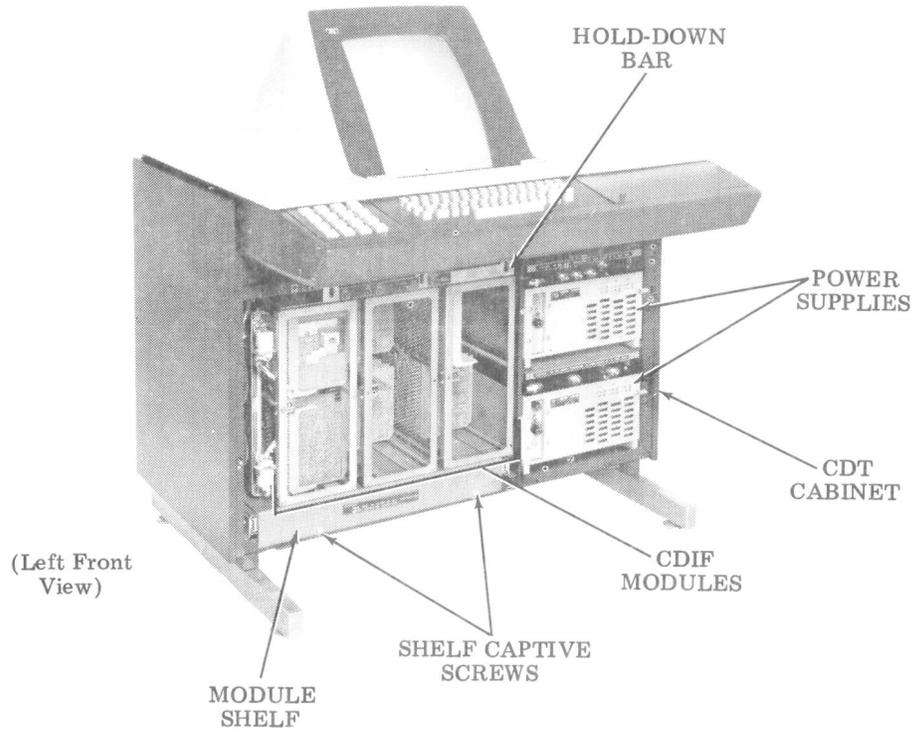

Figure 4 - CDT Set
4.07 Tighten the two captive screws on the front of the module shelf securing it to the cabinet frame (Figure 4). Replace the front panel on the cabinet, and tighten the two panel fasteners.